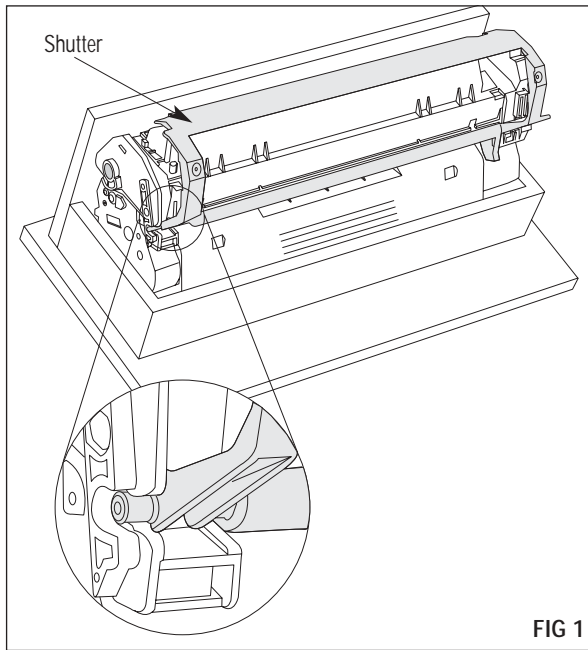
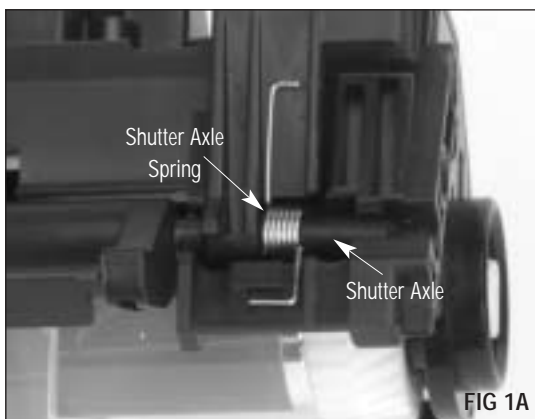

FIG 1
FIG 1A
1. Place the cartridge in the HP1200 jig (HP12HJIG). The jig should be secured with clamps to a stable surface. Remove the shutter from the cartridge by carefully prying the axles loose (FIG 1). When removing the shutter make sure not to lose the spring in FIG 1A.